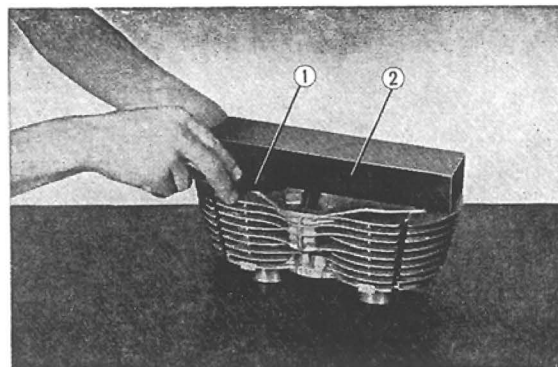

Fig. 3.17 Measuring flatness of gasket surface
1. Inspect gasket surfaces for evidence of blow by or distortion. If surfaces are warped by more than 0.05 mm (0.002 in) correct by lapping on a surface plate. (Refer to Fig. 3.17)